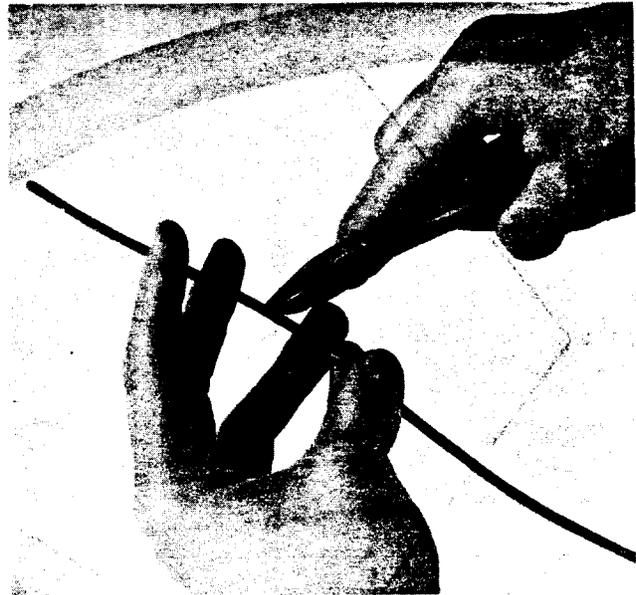

Fig. 9—Stripping D Station Wire
- (1) Use *diagonal pliers* to cut through jacket and insulation to expose conductors (Fig. 9).
- (2) Hold the wire firmly with one hand, grasp one or two of the exposed conductors with long-nose pliers, and pull, using the conductors to split the jacket to the desired stripped length (Fig. 9).